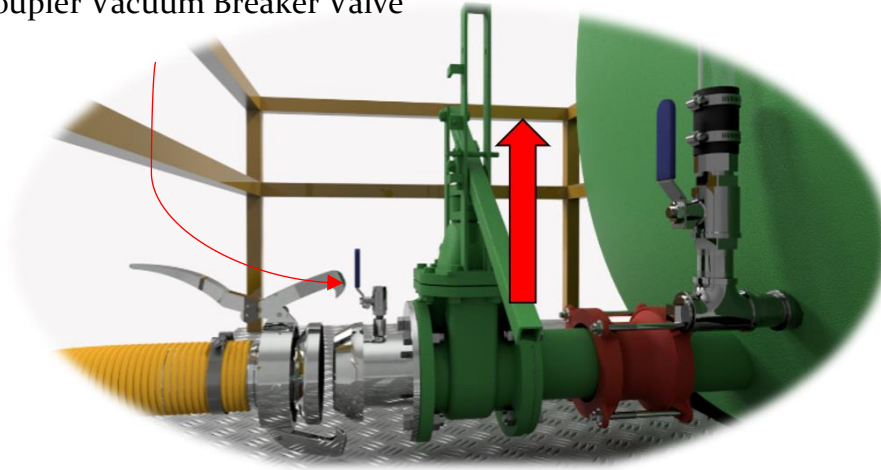

Figure 5: Quick Acting Suction Valve Operation
Step 4b: Open the quick coupler vacuum-breaker-valve as indicated in Figure 5, allowing atmospheric ingress into the suction hose. Allow remaining effluent in the suction hose to drain prior to continuing to **Step 5 b**.
Step 3c: Open the suction valve as indicated in Figure 5.